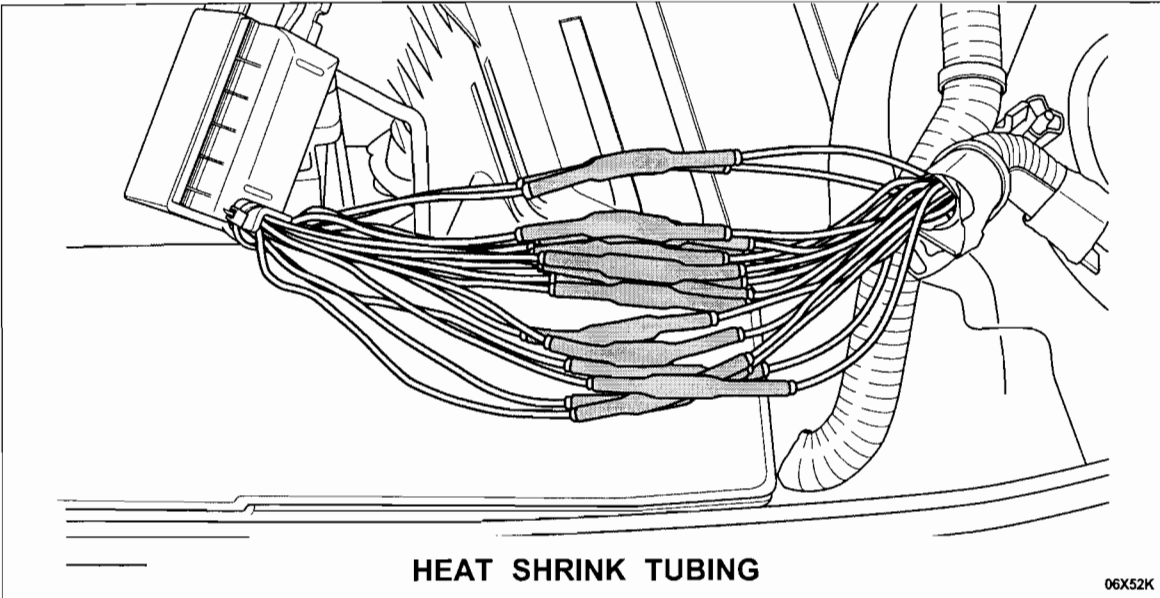

FIGURE 21
6. After soldering the wires, center each piece of heat shrink tubing over the splice. Then, using the flameless heat gun provided in the Rotunda Kit, shrink one piece of tubing at a time until the adhesive flows out of both ends. Continue until all wires are insulated. See Figure 21.